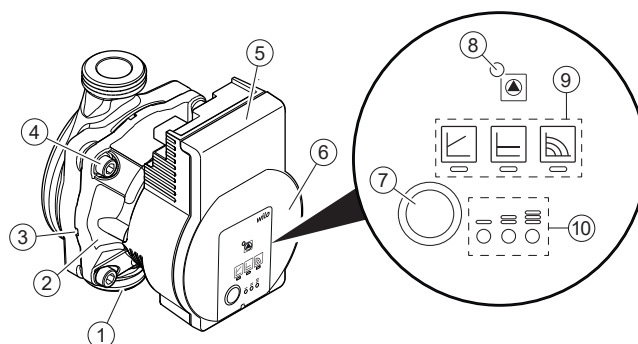

Figure A3-1: Pump components and control panel
- Run/Fault signal LED (item 8, Figure A3-1)
- Control mode display LEDs (item 9, Figure A3-1)
- Pump curve display LEDs (item 10, Figure A3-1)
Operating button - Green (item 7, Figure A3-1)
The Run/Fault signal LED (item 8, Figure A3-1) will indicate if there is a fault with the pump and can assist in diagnosing and rectifying that fault as detailed in Table A3-3 below: